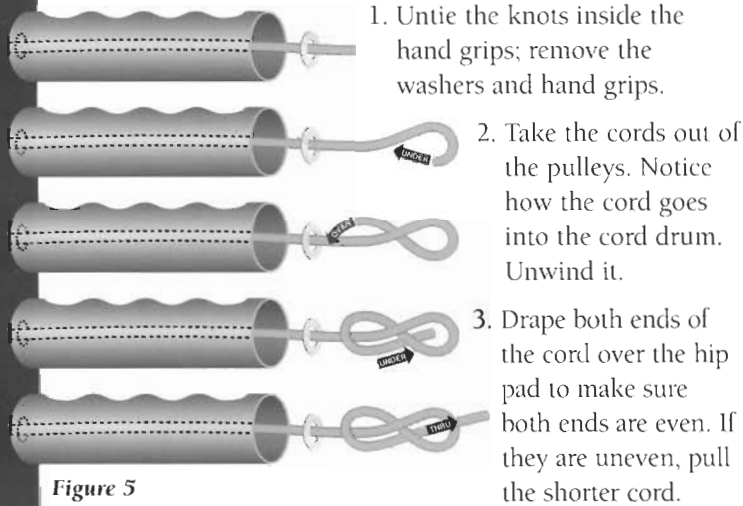

Figure 5
8. Thread the cords through the holes in the hand grips from the top to the inside. Slip a washer on each cord. Tie a figure-eight knot near the cord ends to secure the hand grips (Figure 5).